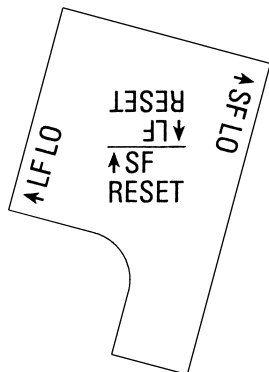

Figure 8-5. Orientation of the label on the bell alarm module for installation as a bell alarm with automatic reset.
- a. For installation as a bell alarm with automatic reset, the label on the back of the module should appear as in Figure 8-5, with the legend ↑ SF RESET horizontal. Attach the module with the two screws and washers provided.